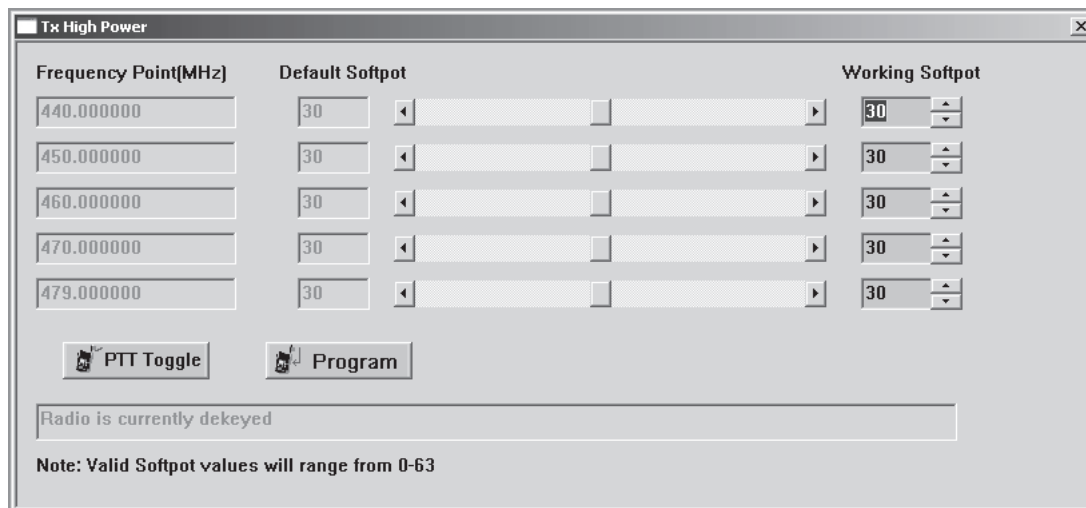

Figure 5-3. Tx High Power Window (High Power)
2. Under the **Alignment** menu, select **Tx Power**, then select **High** (Figure 5-3. Tx High Power Window (High Power)).